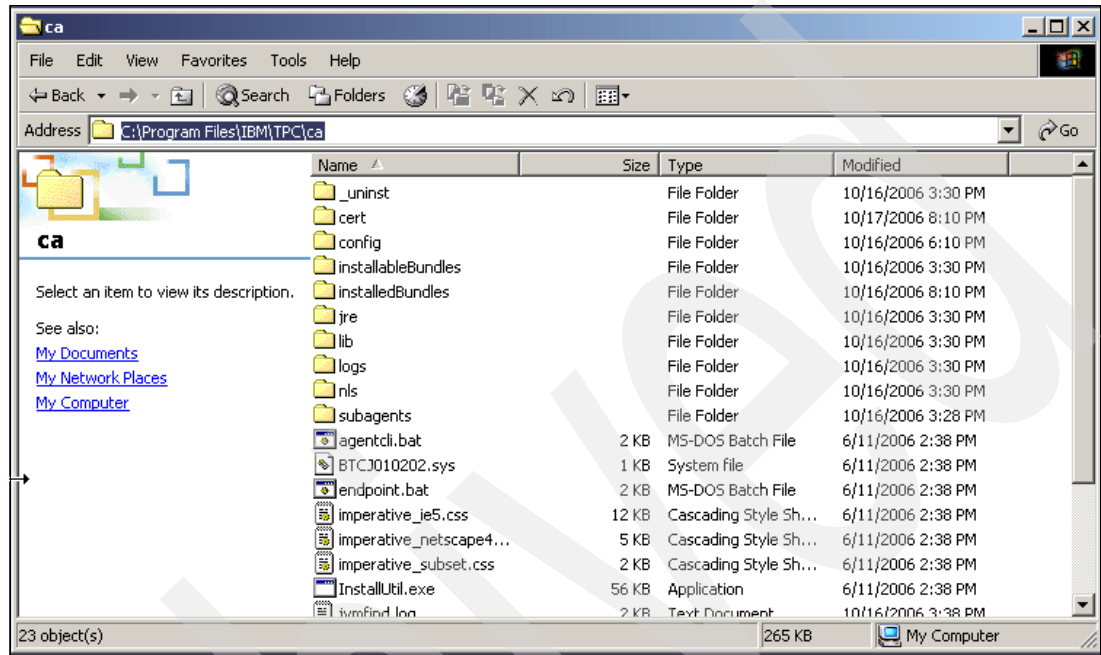

Figure 6-20 Cert directory
3. We will need to remotely log on to the agent KLCHV4Z.a1maden.ibm.com server to delete the contents of the cert directory. The cert directory is located in the directory shown in Figure 6-20: